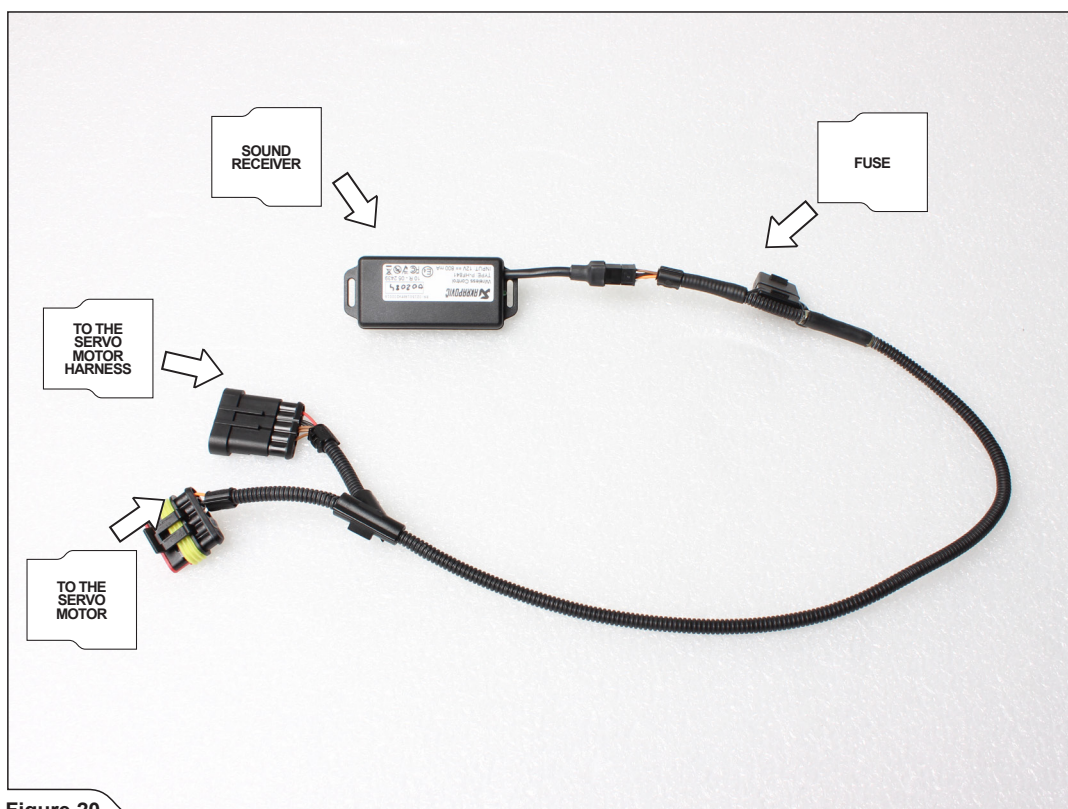

Figure 20
3. Install Akrapovič wiring harness onto the motorcycle, connect cables to the exhaust motor valve and place the receiver with harness, as shown (Figure 20, 21, 22, 23, 24).